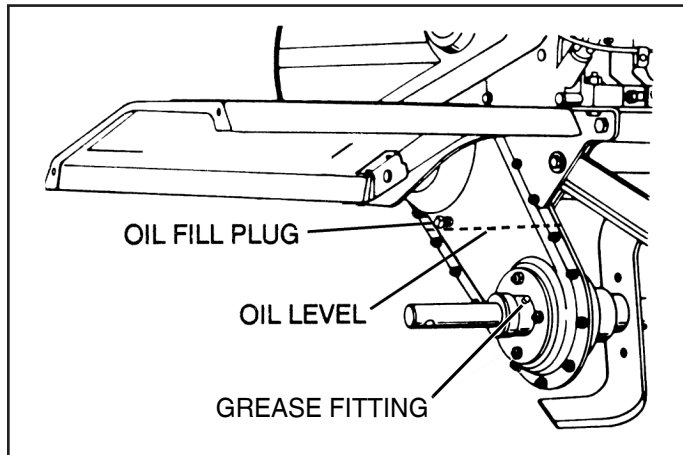

FIGURE 10
- Check the transmission oil level after first 5 hours of operation. Remove oil fill plug (figure 10). Oil level must be even with the plug hole (with tiller level). Add oil if necessary. Use SAE 30 non-detergent motor oil. Replace oil fill plug.